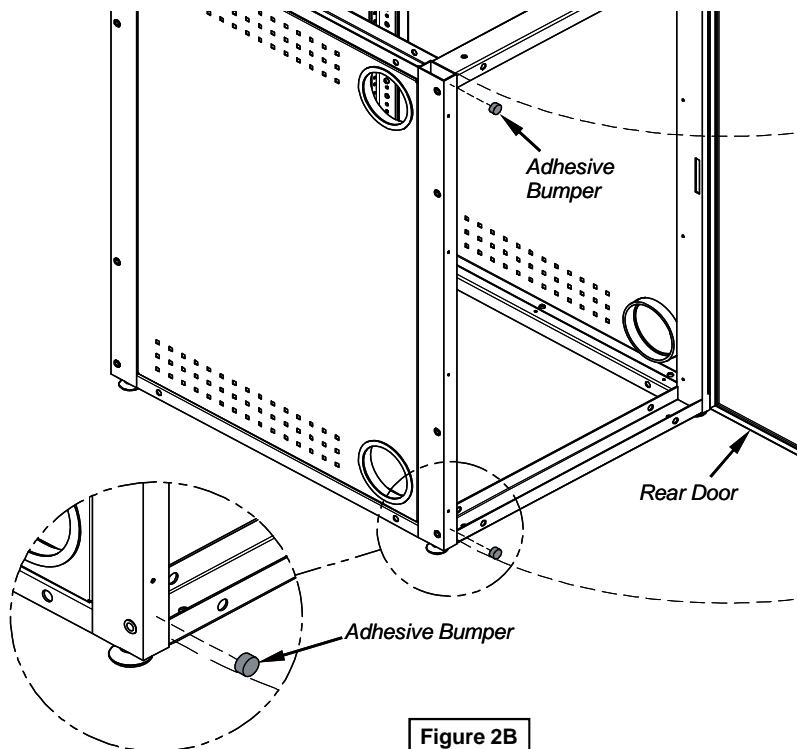

Figure 2B
- Tip the unit back upright, and open the rear door to attach the (2) adhesive bumpers to the equipment rack frame as shown. **Figure 2B.**